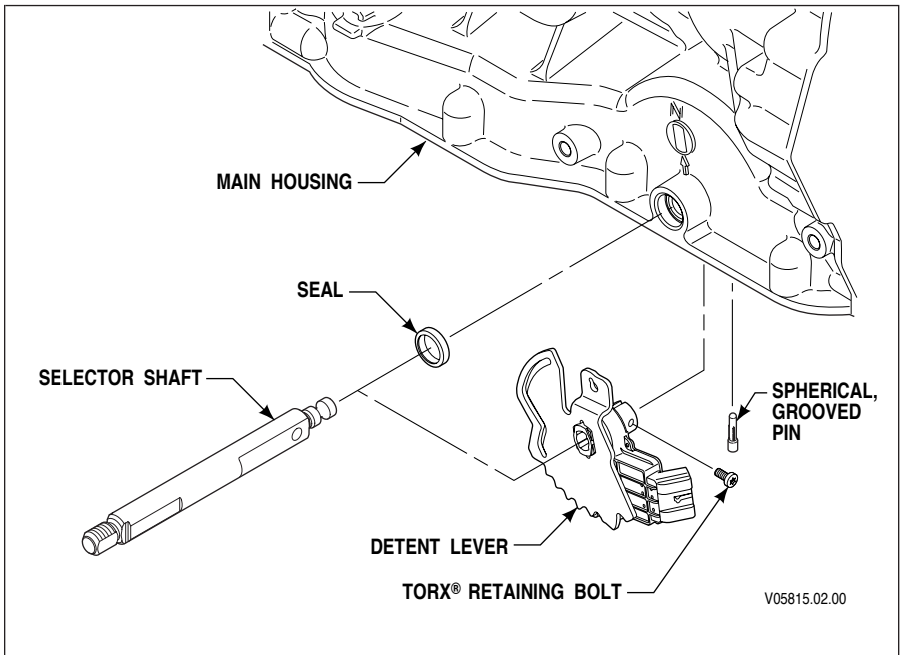

Figure 3–9. Detent Lever/IMS Assembly Replacement
16. Move the control valve assembly into position under the main housing, while making sure that the manual selector valve and pin remain in the valve bore and index slot. Engage the pin in the manual selector valve into the slot in the detent lever. Align the valve body assembly with the dowel pins in the main housing, seat the body assembly against the main housing, and install one bolt to hold the assembly in place. Install the remaining fourteen bolts at locations “1” and “2” (refer to Figure 3–8). Tighten the bolts to 10–13 N•m (7–10 lb ft).